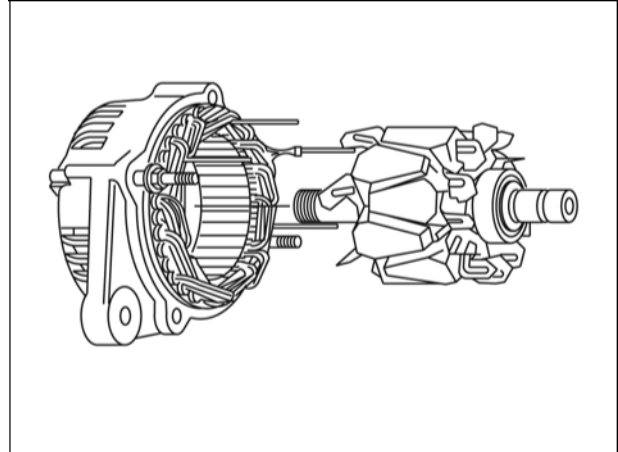

Figure 26
3. Press out bearing from pulley side of drive end housing using Driver #19416 (Figure 26).